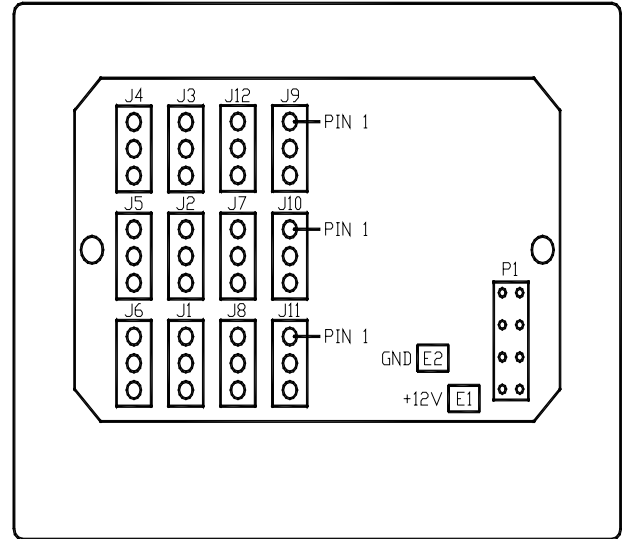

Figure1
2. Plug the other end of the cable into the light head output socket on the flasher, see Figure 1.